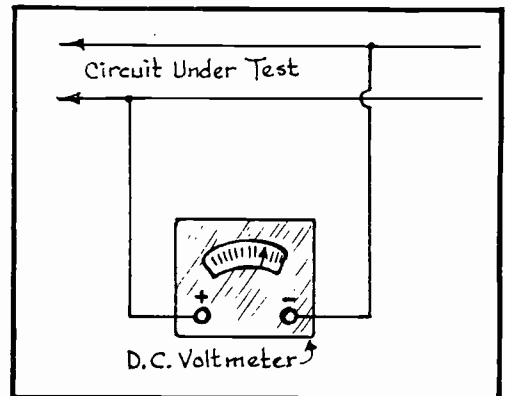

Fig. 3
2. CONNECT THE VOLTMETER ACROSS THE CIRCUIT MOMENTARILY AS ILLUSTRATED IN FIG. 3. SHOULD THE NEEDLE TEND TO SWING OFF ITS SCALE TOWARDS THE LEFT OF THE ZERO MARK, THEN REVERSE THE CONNECTIONS.